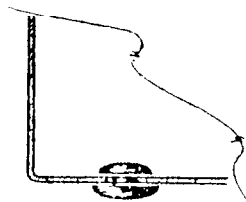

Fig. 18
6) Insert the rubber feet in the openings provided in the bottom of the cabinet as shown. The method is to work the rounded portion of each foot into the interior of the cabinet from the outside, using a small screwdriver. The flat portion should be the actual resting or contact surface. See insert drawing of Fig. 18.